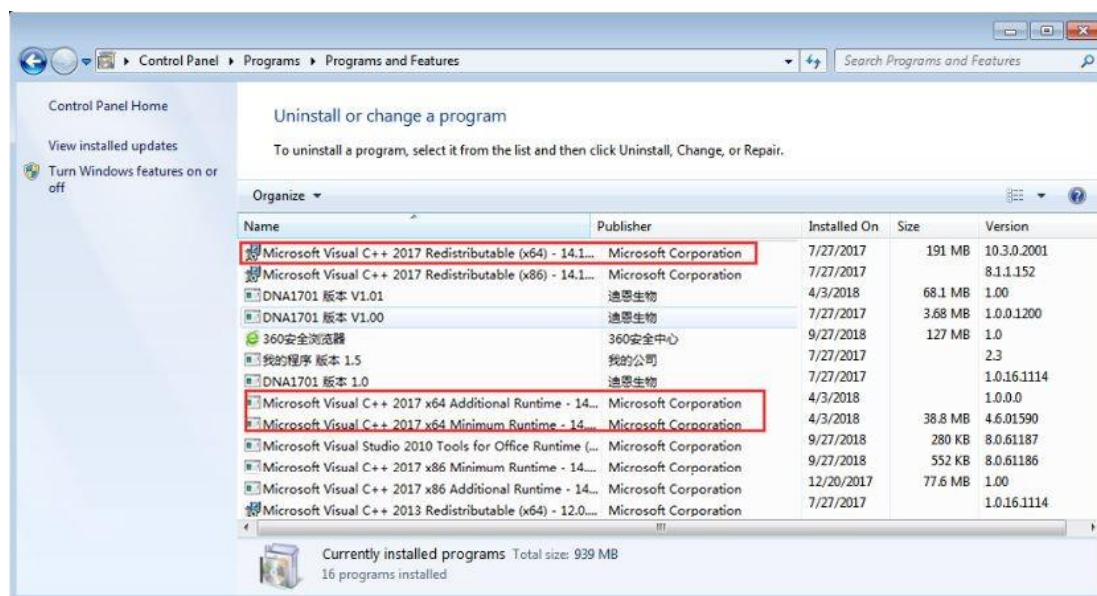

Fig 9
- Please confirm if the installation is successful in “Control Panel” which path is “control board”→ “Programs”→ “Programs and Features ” as highlighted in Fig 9.